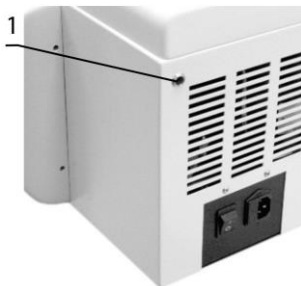

Figure 3. LMC4200R, right side
- 5.12.3. **LMC-4200R.** Insert the emergency opening tool into the slot on the right side of the unit, above the power switch (fig. 3/1). Push until a click is heard and open the unlocked lid.